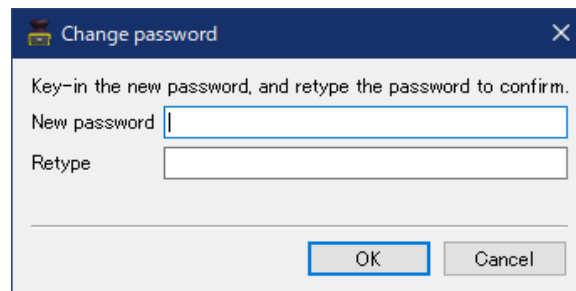

Figure 7-42 Password change
- Window as shown in figure 7-42 will be displayed.